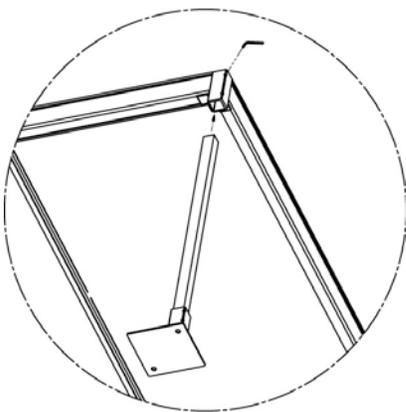

FIG. 1
- 1.1.1 Insert support legs into corner pockets at corners of platform (FIG. 1). Position foot pads so that they do not protrude past perimeter of the platform. **Note:** The support legs are also used to support the guardrails and when installed, the support tubes must protrude at least 24" above the platform walking surface (FIG. 2).